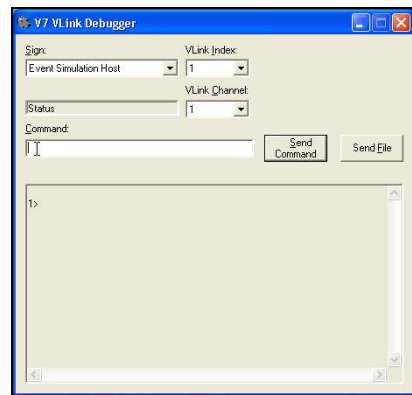

Figure 19: Completed Reboot
3. Wait one minute to allow the VIP to reboot, then type “XR” and click **Send Command**. Allow a minute for the VIP to reboot, then click **[Enter]** while the cursor is in the VLink Debugger Command box. When *1>* appears in the readout window, the VIP has completed the reboot. Refer to **Figure 19**.